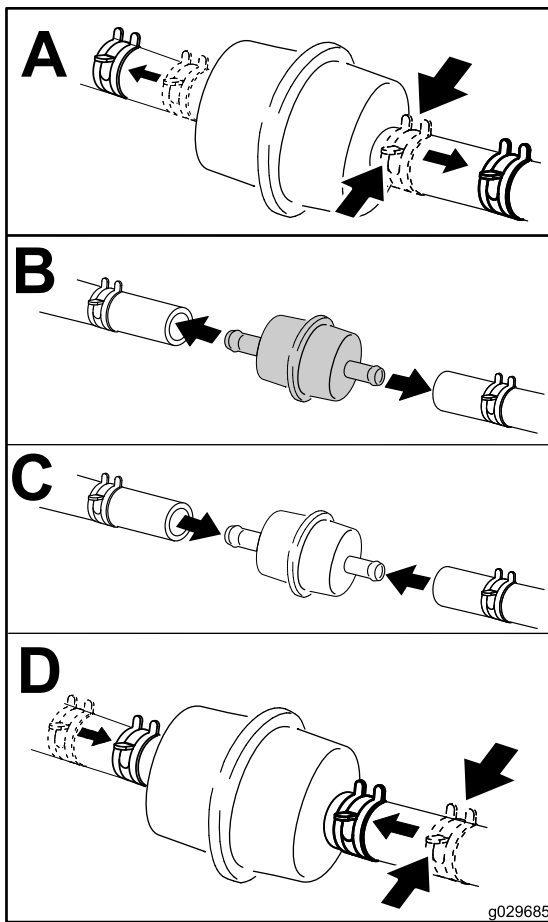

Figure 74
4. Replace the fuel filter (Figure 74).